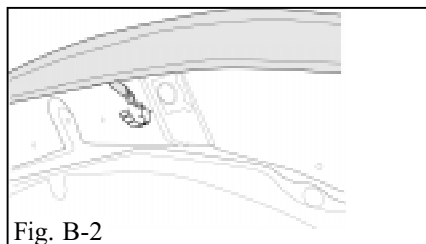

Fig. B-2
3. Attach one (1) hook to the hole at the top of the hood (Fig. B-2.) Repeat on other side of vehicle.